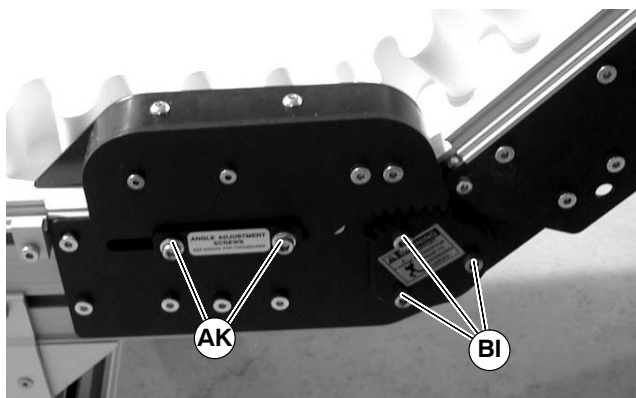

Figure 50
3. Loosen screws (AK and BI of Figure 50) on both sides of knuckle.